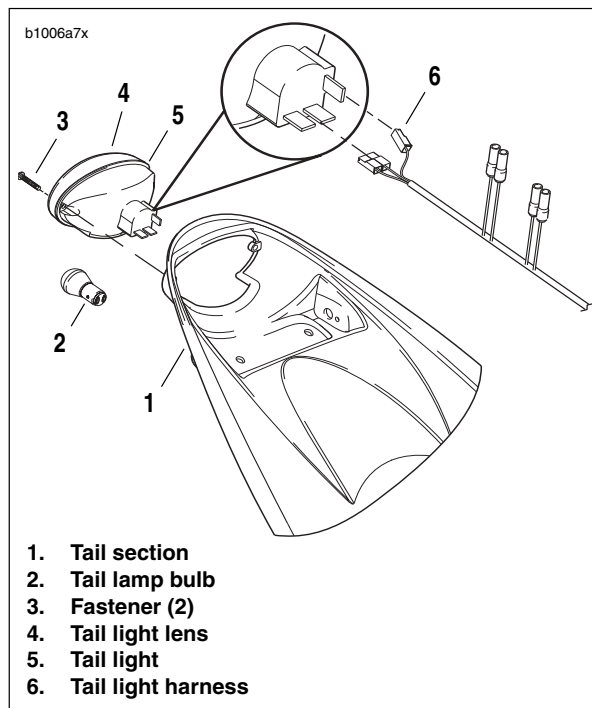

Figure 7-50. Tail Lamp Assembly
1. See Figure 7-50. Remove two screws (3) to detach tail light lens (4) and tail light (5). If replacing bulb (2), turn counterclockwise and remove.
2. Disconnect two connectors [93] from tail lamp harness (6).
1. See Figure 7-50. Attach the two tail light harness connectors [93] (6).
2. If removed, install tail lamp bulb (2).
- b. Install tail light lens (4) and tail light (5) with two fasteners (3) and tighten to 6-7 **in-lbs** (0.7-0.8 Nm).